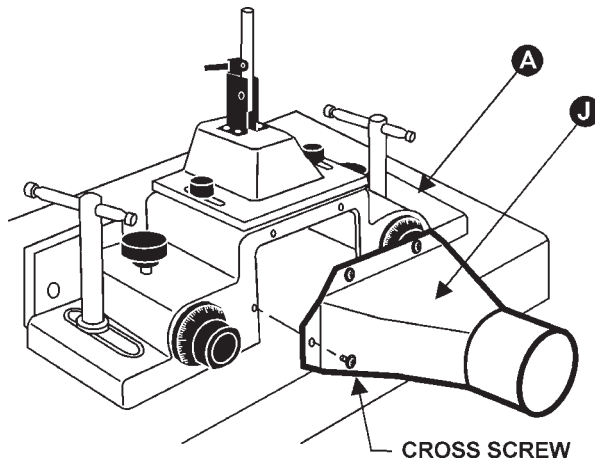

FIGURE 6
3. Mount the dust hood (J) to the rear of the fence body (A) with the four cross screws, Figure 6.